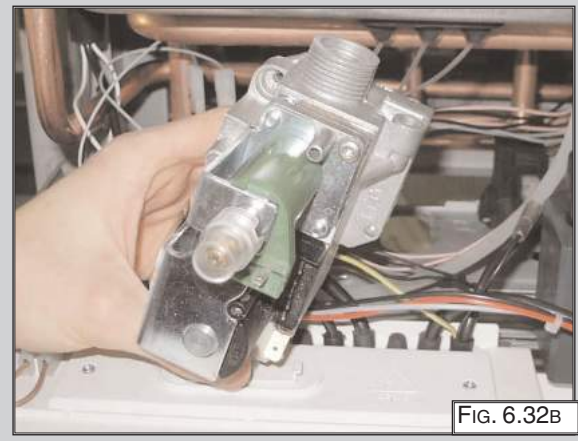

FIG. 6.32B
5. Remove the gas valve (FIG. 6.32B).